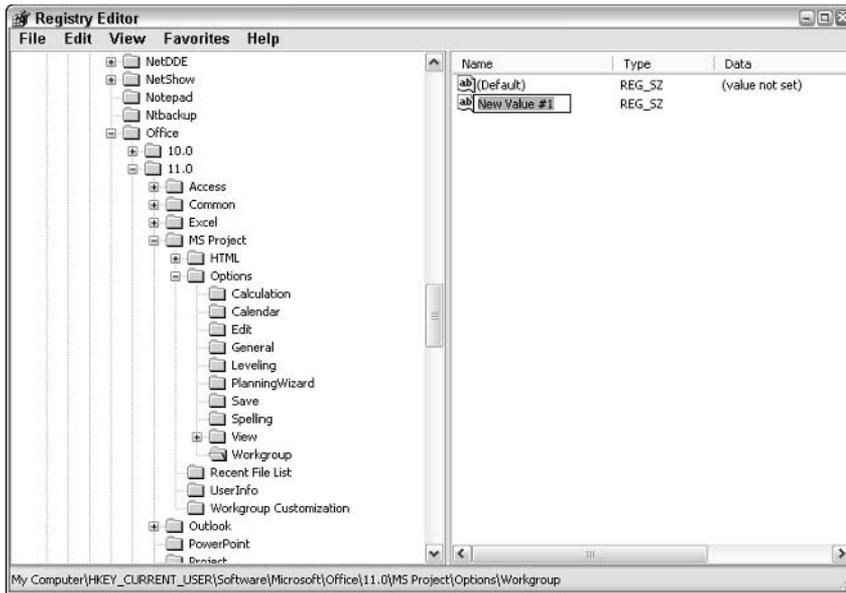

Figure 16-4: Add a string value.
7. With the `Workgroup` folder selected, add a new String value by choosing `Edit` → `New` → `String Value`. You see a new entry in the right pane of the Registry Editor window (see Figure 16-4).